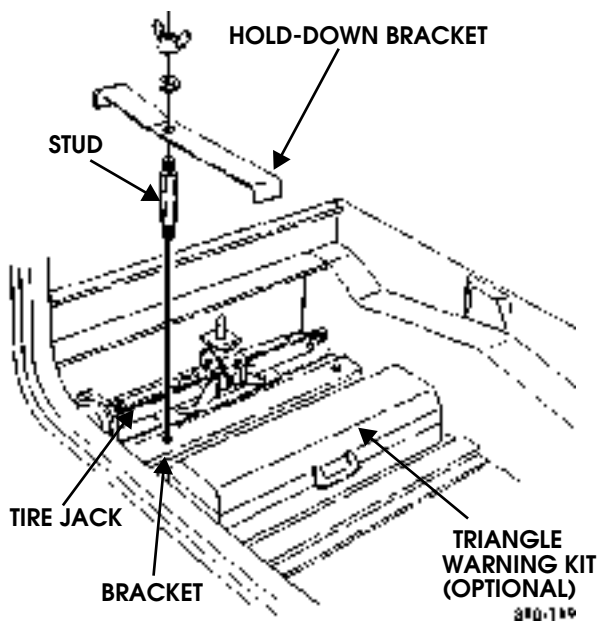

Figure 10-124: Emergency Equipment Hold-Down Bracket - Two-Passenger Vehicle
1. Remove two wingnuts, washers, and hold-down brackets (Figure 10-124).
1. Place tire jack and triangle warning kit in place (Figure 10-124).